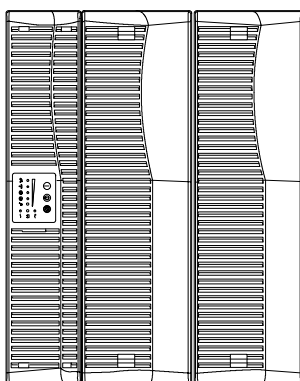

Figure 7. Tower UPS with an EBM
5. Carefully position the cabinets upright (see Figure 7).
NOTE *The EBM(s) must be installed to the right of the UPS as shown in Figure 7. Joining brackets are required for installations with two or more cabinets.*